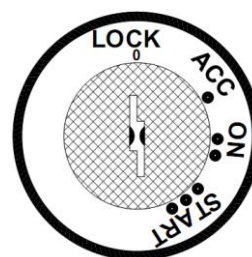

Figure 7.1
- Turn the key from the "LOCK" to the "ON" position (second notch) (Figure 7.1)
- Turn the ignition key to the "**LOCK**" position. (Figure 7.1)